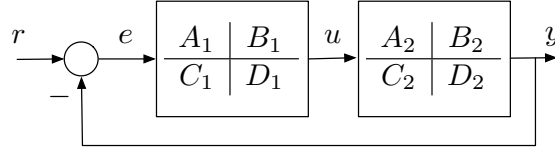
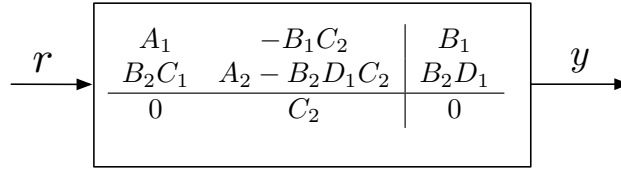

Figure 2.34: Feedback connection.
Figure 2.35: Feedback connection as a combined system.
4. *Example, feedback connection.* Figure 2.34 shows a feedback arrangement. Feedback is introduced later in the book, but here we merely want to do some manipulations with state models and block diagrams. Specifically, we want to derive a state model from r to y . The derivation is simpler under the assumption $D_2 = 0$, so we make that assumption. The block diagram has two blocks. Write the state equations for the two blocks:
We conclude that the block diagram Figure 2.34 can be simplified to Figure 2.35.